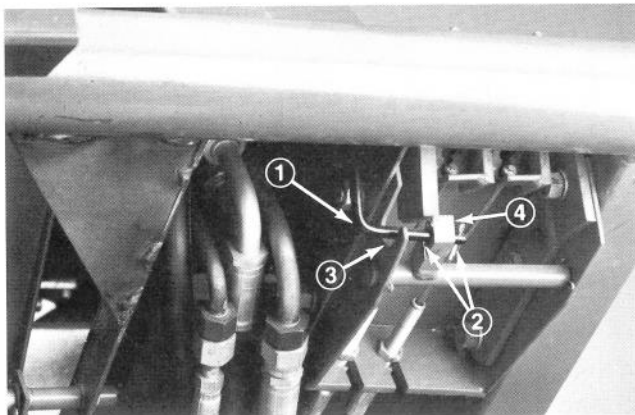

Figure 2
5. Install cotter pin (3/32 x 1/2 in. - 2.4 x 13 mm) through hole at top of parking brake rod. Install another cotter pin (3/32 x 1/2 in. - 2.4 x 13 mm) through inside hole at L-shaped end of brake rod (Fig. 2).
7. Slide top of rod up the steering tower and bottom of rod between cutout in brake mount and through hole in parking brake latch (Fig. 2).